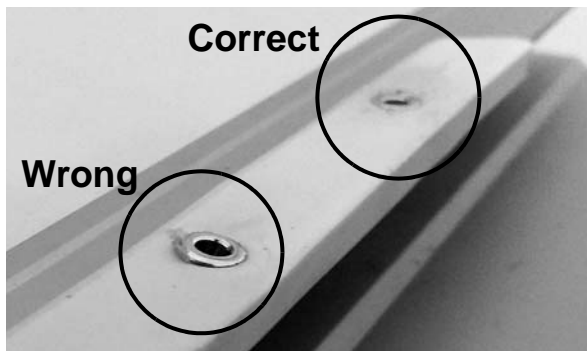

Figure 46
2. Check that the rivets do not protrude over the surface of the slide rail. Check both top and underneath surface of slide rail for protruding metal. (See **Figure 46**.)